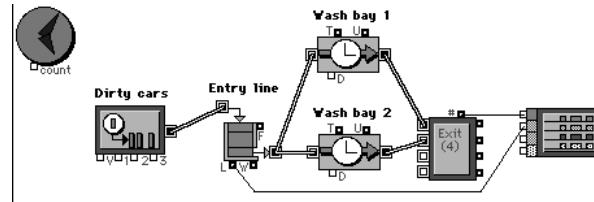

Figure 3: Car wash with two bays
Delete the Exit block and replace it with an Exit (4) block so both lines exit. The new two bay car wash is shown in Figure 3:
For example, assume you want to model a commercial car wash that washes a group of cars delivered periodically by a car delivery truck. Using the two-bay car wash in Figure 3 as a base, you must change the parameters in the Generator block. You can plot the number of cars being delivered as well as the number waiting in the queue.
This indicates that, compared to the two-car wash in Figure 3, there are 8 times as many cars per event, but they arrive one eighth as often. As discussed in the section on Values earlier in this chapter, queue blocks separate items with a Value other than 1 into clones of the original item. Although the Generator block provides a truck-load of cars, the truck-load is separated into eight cars after it enters the queue. Each of the eight cars is then processed individually. The model looks like Figure 14.